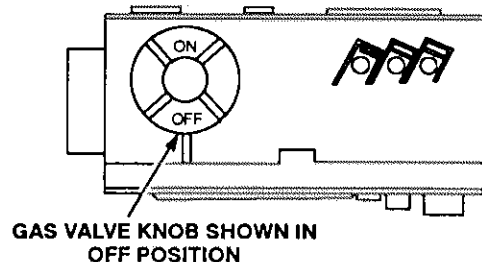

FIGURE 14
Gas Valve Operation (Figure 14 – 16)
- 6— On Robertshaw 7100D and Honeywell VR8204 gas valves, turn knob on gas valve clockwise to OFF. Units with Robertshaw 7200 gas valve, depress lever and move to OFF position. Do not force. See figures 14 through 16.